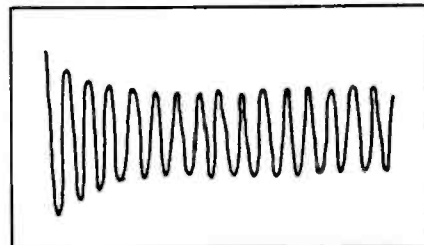
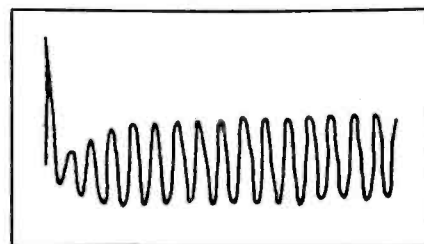

Fig. 2. Faulty limiter action allows first pulse to pass without limiting.
Fig. 3. Excessive attack action creates "holes" in keyed tone fed to limiter.
Performance of automatic level-control devices varies considerably, and there is generally room for some improvement even in the best of them. The following topics indicate some of the performance errors which reduce their effectiveness: (1) first pulse of audio passes through at too high a level (see Fig. 2), (2) control pulse not balanced out of the audio, (3) attack control function is too violent, which overcompensates the audio level following a sharp rise (see Fig. 3), (4) noise and hum are "pumped up" during quiet periods, (5) gain reduction is triggered by signal elements other than the peak of the audio waveform, (6) full amplitude of the audio used for control, (7) control range too limited, (8) harmonic distortion increases excessively with increased input level, (9) control system is frequency selective, (10) recovery-time rate improper for the nature of the program material, (11) output level rises with increased input level. These characteristics all can be